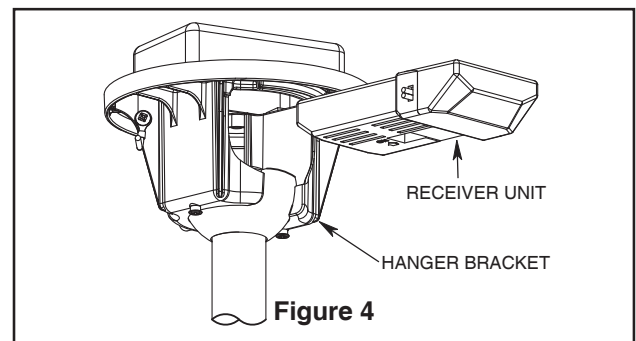

Figure 4
- 4. Slide downrod into the downrod support on top of the motor. Install the clevis pin by aligning the holes in the downrod support with holes in the downrod. Secure clevis pin with hairpin clip. Tighten the two set screws with nuts in the downrod support. (Figure 4)
- 2. Carefully lift the fan and seat the downrod/hanger ball assembly on the hanger bracket that was just attached to the outlet box. Be sure the groove in the ball is lined up with tab on the hanger bracket (Figure 4).
- 3. Slide the receiver unit into the open end of the hanger bracket (Figure 4).
4. Assemble the light kit housing onto the support-cover switch cup using the previously removed screws. (Figure 4)
4. If airflow is desired in the opposite direction, turn the fan off and wait for the blades to stop turning. Slide the reverse switch on top of motor assembly to the opposite position and turn fan on again. (Figure 4)